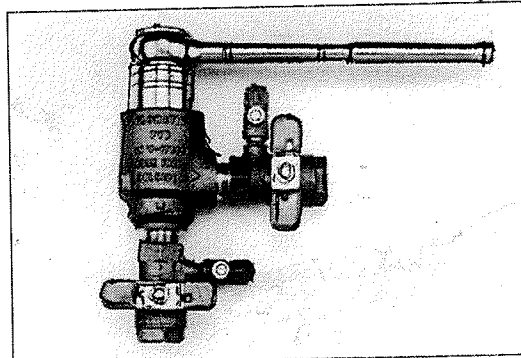

Figure 2
- b. Use a 12 point 1-3/8" socket to unscrew check valve out from the body (see figure 2).